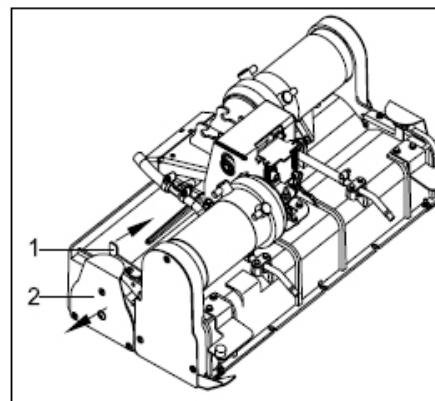

Figure 15 - Scrub Head Assembly
**(1) Locking Lever**
**(2) Brush Cover Idle Plate**
5. Push locking lever (Figure 15/1) towards the center of the scrub head and hold.
6. Lower brush cover idle plate (Figure 15/2) and remove it in direction of the arrow.
3. Place the brush cover idle plate (Figure 15/2) onto the cylindrical brush, push the cover onto the scrub head housing while lifting upwards. Move the locking lever (Figure 15/1) towards the center of the scrub head assembly.